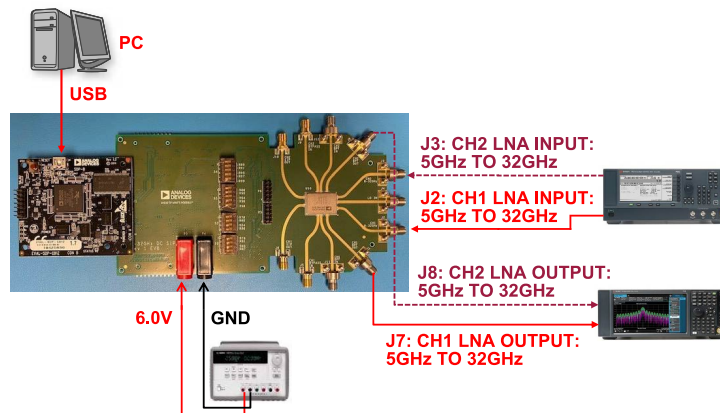
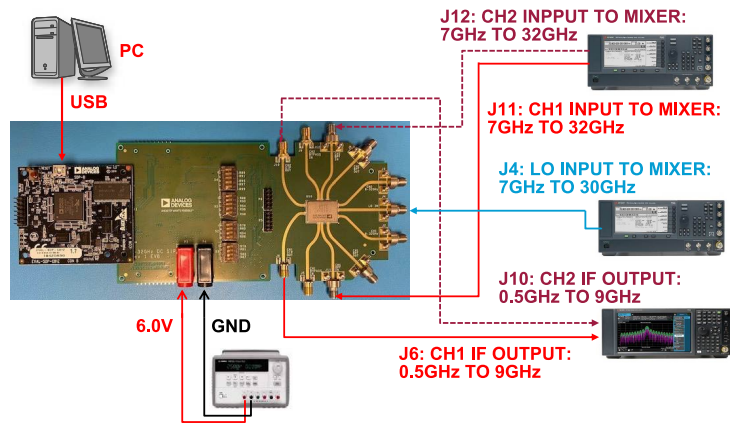
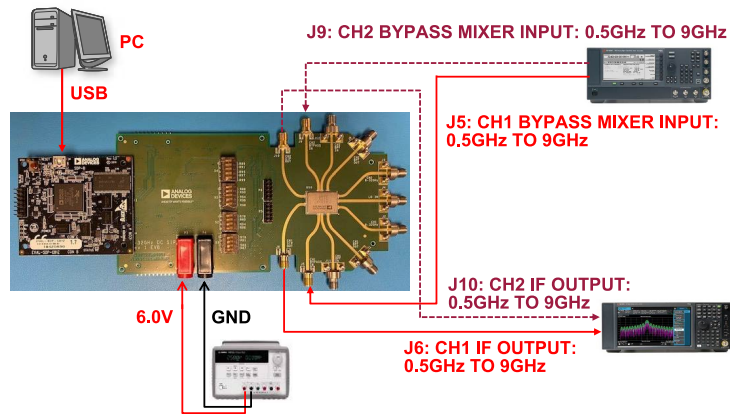

Figure 2. LNA Measurement Setup
Figure 3. Mixer Measurement Setup
Figure 4. Mixer Bypass Measurement Setup
The three operating modes of the ADMFM2000-EVALZ are LNA only, mixer only, or mixer bypass (see Table 1 for further details). In addition, the LNA can be cascaded with the mixer (with an optional attenuation or filtering in between) by making a connection between the BPF IN and BPF OUT connectors. Refer to Figure 2 through Figure 4 for the hardware setup for each mode.
1. Set up the test hardware configuration for the desired operating mode, as shown in Figure 2, Figure 3, or Figure 4. Make sure the S1 switch on the secondary side of the ADMFM2000-EVALZ is flipped to the position shown of the S1 silkscreen.
B	The Channel State Mux is where users select between mixer mode and bypass (mixer) mode. The mode must match the hardware setup shown in either Figure 3 and Figure 4 .